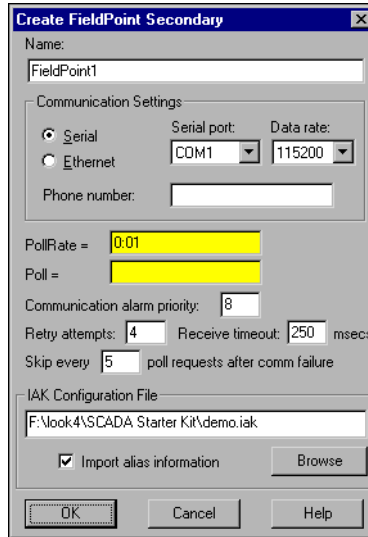

Figure 16. Create FieldPoint Secondary Dialog Box
- Fill out the **Create FieldPoint Secondary** dialog box as shown in Figure 16. The **IAK Configuration File** field directs the software to the location of the .iak file you created when you installed your FieldPoint hardware. Enter the path to the demo .iak file, or use the **Browse** button if you do not remember the complete path.